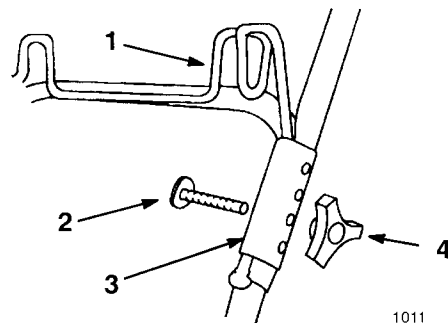

Figure 46
9. Remove the knob and bolt that secure the left side upper and lower handle sections (Fig. 46).
- Remove the bolts and knobs securing the hanger clamps to the handle sections (Fig. 46).